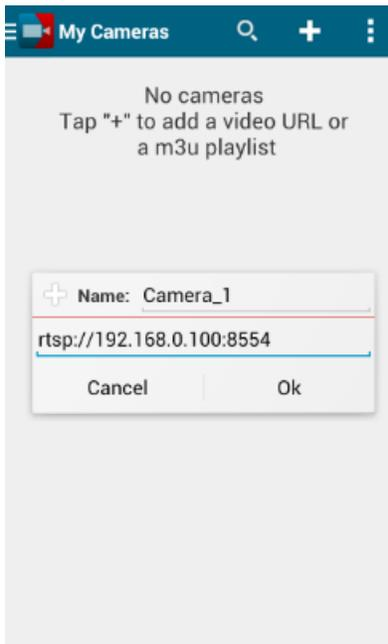

Figure 23. Adding a Video URL
10. Add a Camera by pressing on the “+” button as shown in Figure 23. Enter a Name and `rtsp://<demo-device-ip>:8554`, then press Ok.